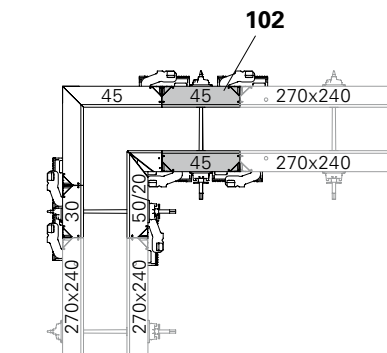

Fig. B1.08
Max. panel width between corner and subsequent panel is 45 cm – Panel MX 270 x 45 (102). (Fig. B1.08)